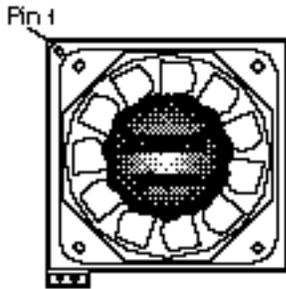

Fig. 1-1 Top View
The location of Pin 1 on the TurboChip must be oriented to match Pin 1 on the processor socket. Pin 1 on the TurboChip is denoted by a white corner edge on the CPU chip. When installing TurboChip, it must be oriented so that Pin 1 is aligned with Pin 1 on the CPU socket. The socket should also have a beveled edge or silk-screened arrow denoting Pin 1. Before installing TurboChip, refer to the original 486 processor to verify the location of Pin 1. Figures 1-1 and 1-2 show the location of Pin 1 on the TurboChip. Figure 1-3 shows Pin 1 on the original 486 processor, please make a note of it before removing.
1. Before removing the CPU chip from its socket, note the position and orientation of Pin 1 (identified by either a notch, beveled edge, dot, or half-circle). The position of this corner (Pin 1) determines how the TurboChip will be installed. **Pin 1 on the CPU socket must match Pin 1 on TurboChip.** Refer to Figure 1-1 on page 3 for the location of Pin 1 on the TurboChip upgrade.
When installing the TurboChip, the orientation of Pin 1 (marked with a white dot on the upper-left corner of the unit) must match the original Pin 1 orientation of the 486 processor chip (See Figure 1-1 on page 3). Pin 1 is usually denoted by a beveled or cut edge. The orientation of the processor socket will vary depending on the make and model of your particular computer. Follow the steps below to determine the correct orientation of TurboChip in your computer.